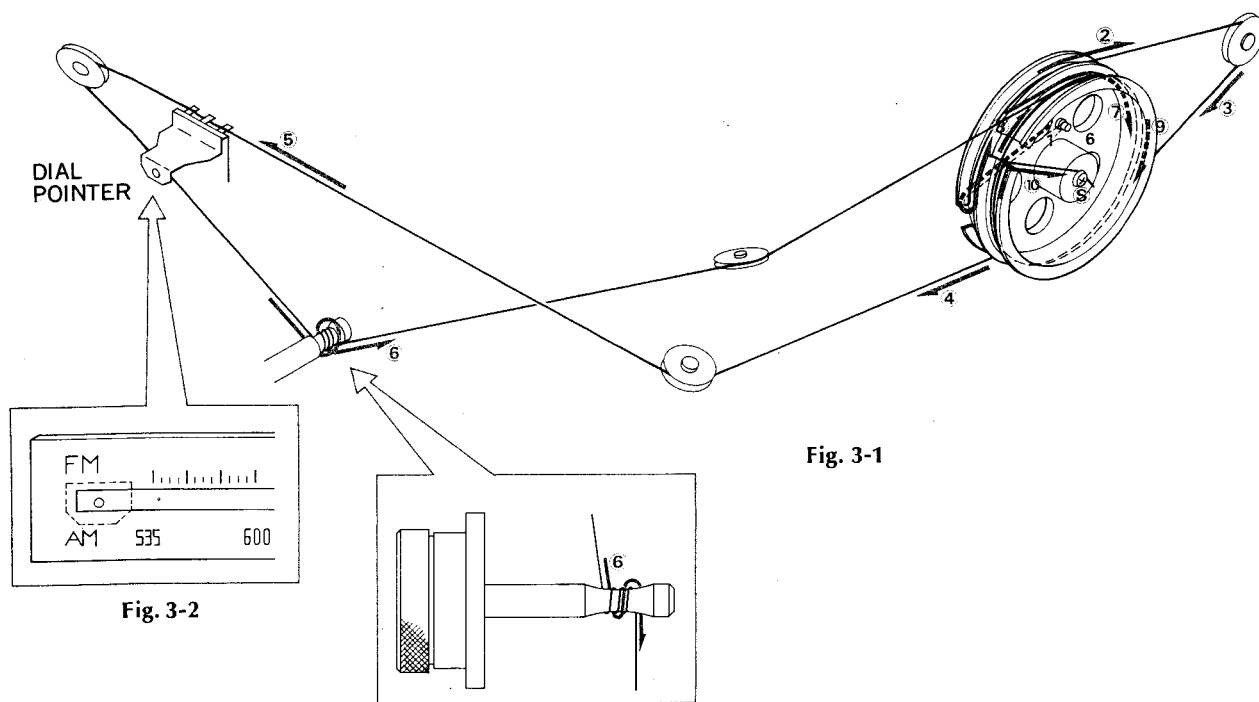

Fig. 3-1
Thread the dial cord in numerical order from ① to ⑩ as Fig. 3-1.
- 2) Only when you replace variable capacitor with new one, turn up the screw ⑤ completely so that the screw 6 on dial pulley is positioned as shown in Fig. 3-1.
- 3) Tie the cord to screw 6 and thread it in the direction of arrow from ① to ⑤
- 4) Then, after winding the cord 3 turns around the tuning shaft counterclockwise, thread it from ⑦ to ⑩.
- 5) After ⑩, tie the cord to the screw ⑤ of the dial pulley.
*After procedure 5), lock the knot ⑩ of the cord and the screw ⑤ with paint.